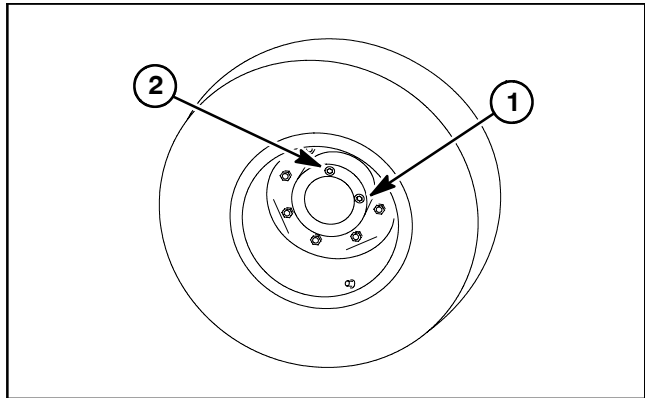

Figure 5
10. Fill planetary wheel drive/brake assembly with SAE 85W-140 gear lube (Fig. 5). Capacity is approximately 22 fl. oz. (0.65 liters) per wheel.